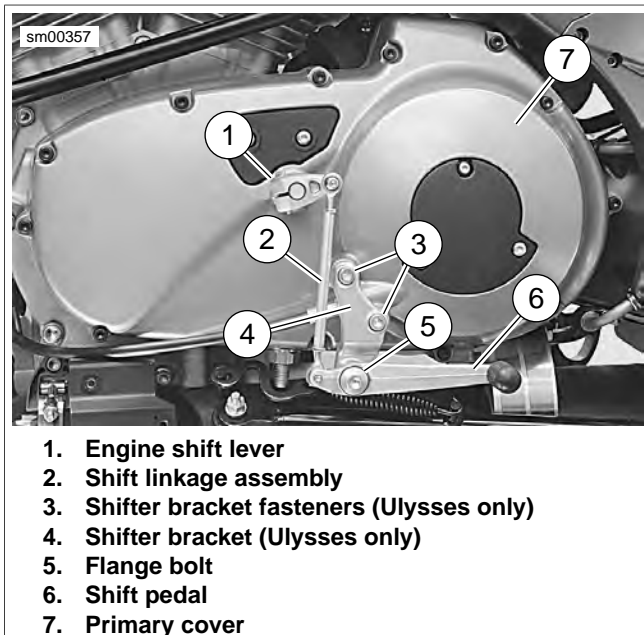

Figure 5-8. Installing Shift Linkage (Ulysses Shown)
12. See Figure 5-8. For Ulysses only, install shifter bracket (4) on primary cover (7) by applying LOCTITE 271 (red) to fasteners and tightening to 22-24 ft-lbs (30.0-32.5 Nm). Lightning and Firebolt models do not have a shifter bracket.
13. Install rubber washer and engine shift lever assembly (1).
14. After applying LOCTITE 271 (red), install flange bolt (5) and shift pedal (6) and tighten to 22-24 ft-lbs (30.0-32.5 Nm).
16. If the shift linkage assembly (2) was removed for any reason, apply LOCTITE 271 (red) to fasteners and tighten to 36-60 **in-lbs** (4.0-7 Nm). Adjust to rider comfort.